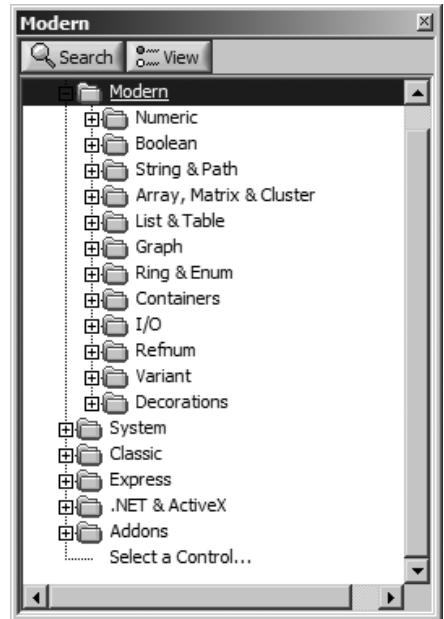

Figure 3.49
- **Tree**, shown in Figure 3.49, is also minimal, having only folder icons and item names. However, it behaves more like the **Category** formats, having a tree hierarchy.